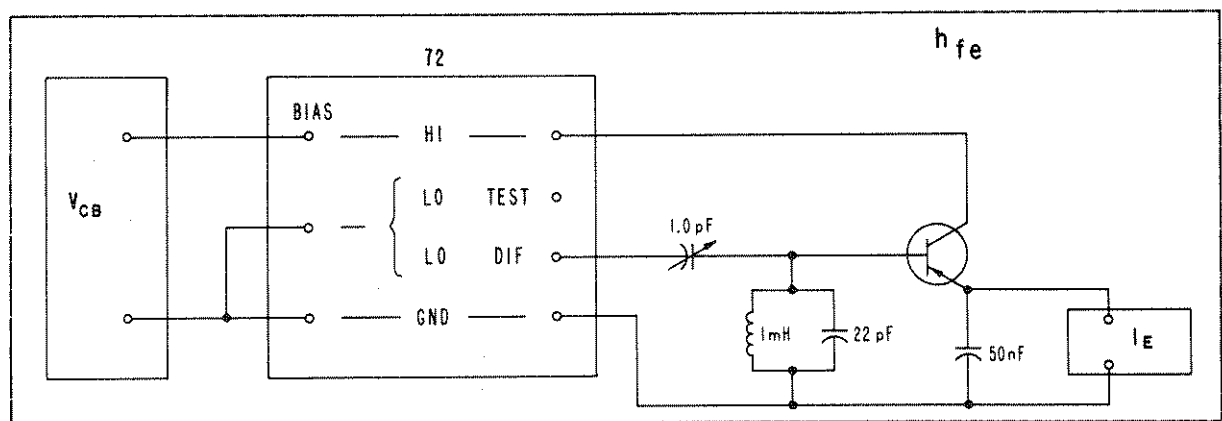

Figure 2-6. Transistor Beta Measurement
C. Beta ( $h_{fe}$ ). See Figure 2-6.
The variable series capacitor in the base circuit (see Figure 2-6) must be adjusted for a value of 1.0 pF. This is easily accomplished by connecting a small jumper between the socket's base and collector terminals (a "unity-gain transistor"), permitting the direct measurement of this capacitance.